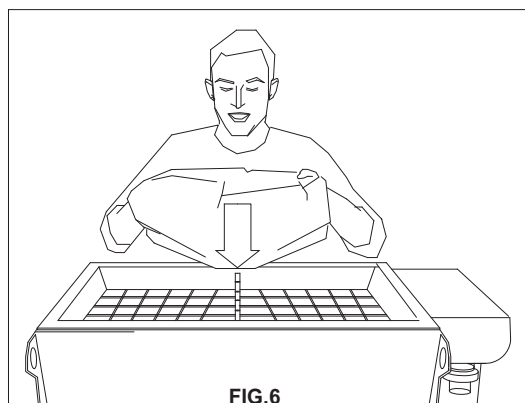

FIG.6
- Load the pre-mixed dry material. Take the bags of material and place them securely on the bag splitter grid (ref.12,fig.1), lift the two end corners of the bag to completely empty the contents into the hopper (fig.6).